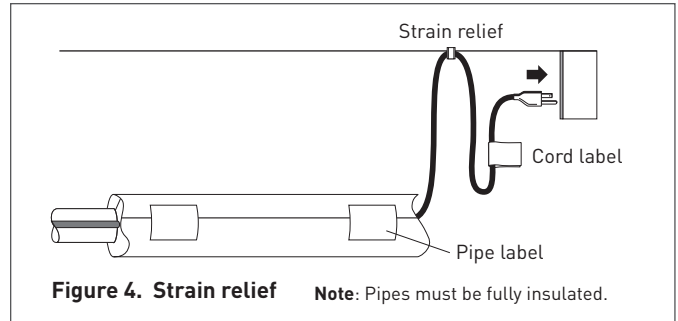

Figure 4. Strain relief Note: Pipes must be fully insulated.
- To prevent damage to the heating cable or cord, secure the power cord (cold lead) with a plastic cable tie, glass cloth tape, or duct tape as shown in Figure 4.